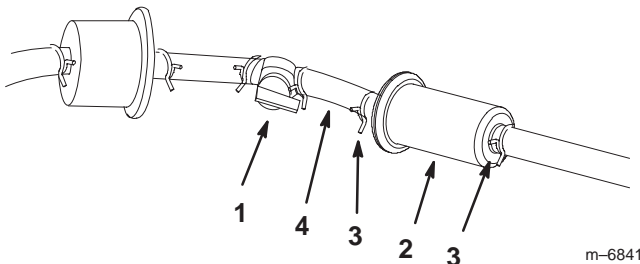

Figure 47
2. Close the fuel shut-off valve (Fig. 47).
3. Loosen the hose clamp at the fuel filter and slide it up the fuel line away from the fuel filter (Fig. 47).
4. Pull the fuel line off fuel filter (Fig. 47). Open fuel shut-off valve and allow gasoline to drain into a gas can or drain pan.
5. Install the fuel line onto the fuel filter. Slide the hose clamp close to the fuel filter to secure the fuel line (Fig. 47).